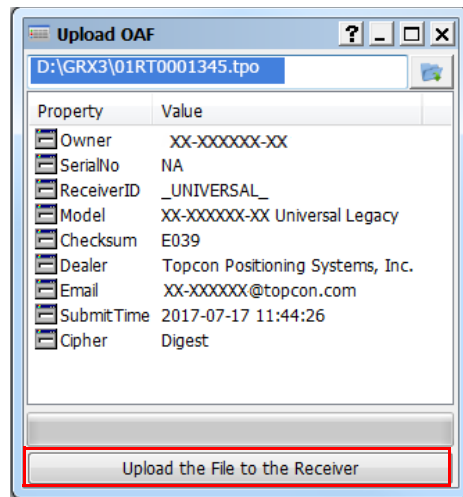

Figure 5-8: Upload OAF to the Receiver
SRU initially checks to see if the selected file is compatible with the currently connected receiver. If you chose a file that is not intended for this receiver, the **Upload OAF** window will display an error icon next to the **Receiver ID** (not shown), and disables the **Upload the File to the Receiver** button (Figure 5-8).
- Click **Upload the File to the Receiver** to start loading the file (Figure 5-8).